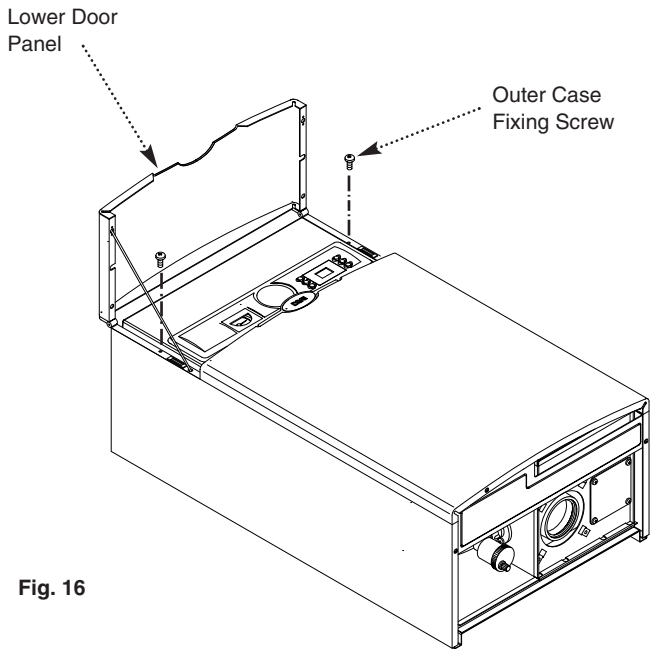
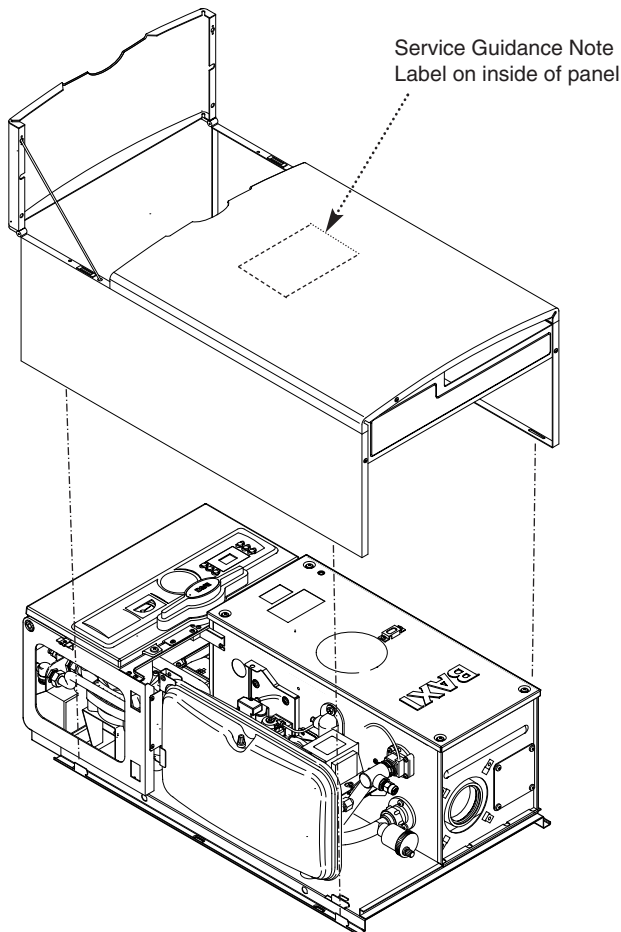

Fig. 16
Fig. 17
2. Hinge up the lower door panel (Fig. 16).
3. Remove the outer case fixing screws (Fig. 16). Slide the outercase upwards to disengage the hooks on the backplate and remove (Fig. 17).
**NOTE:** Service Guidance Note Label is fitted to the inside of the outercase (Fig. 17).